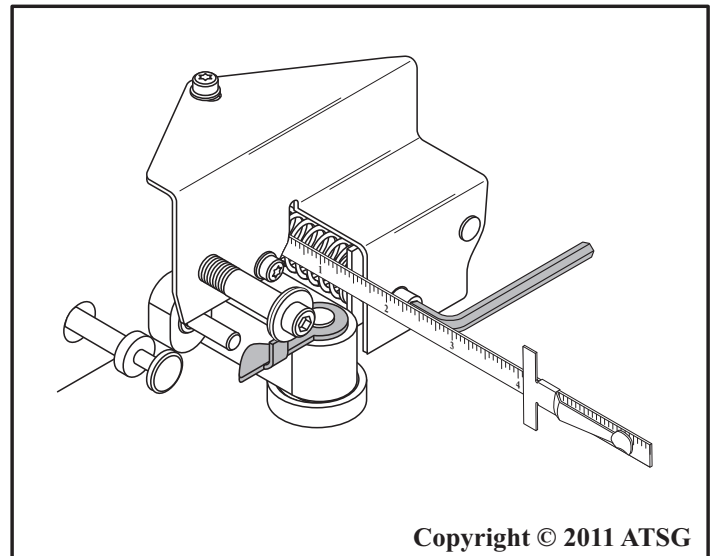

Figure 215
1. Measure distance from the valve body to the inner edge of the adjusting screw flange with an accurate steel scale, as shown in Figure 215.
Turn the adjusting screw in, or out, to obtain the required setting. Use hex-wrench to turn the adjusting screw, as shown in Figure 215.